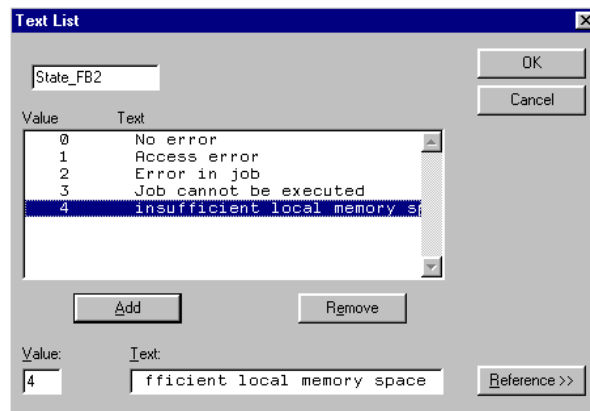

Fig. 8-5 Symbol list/text dialog
5. In dialog field **Value** enter the error number as specified in Table 6-9, and enter the error text in the **Text** field. When you press button **Add**, the entry is transferred to the symbol list field (see Fig. 8-5).